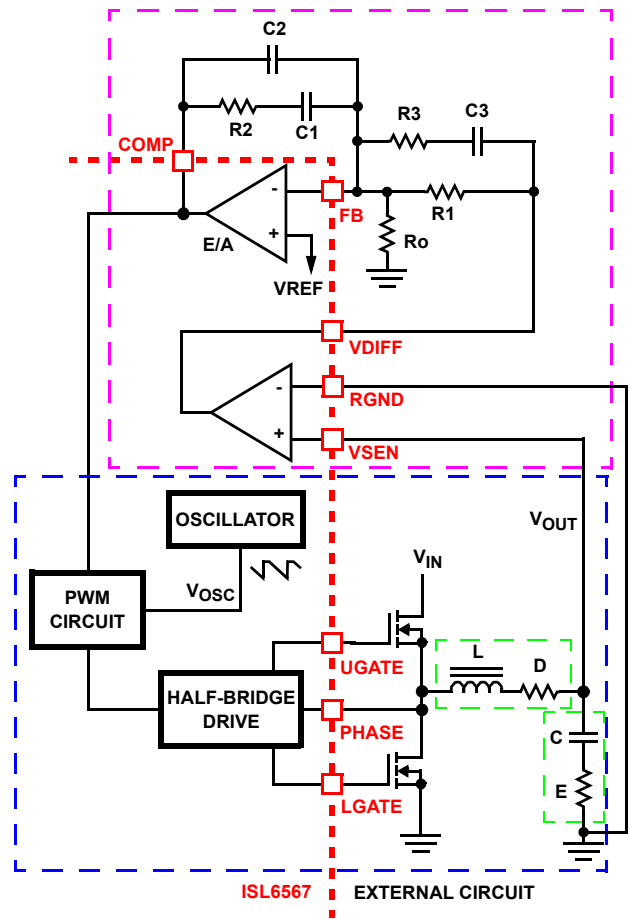

FIGURE 24. VOLTAGE-MODE BUCK CONVERTER COMPENSATION DESIGN
Figure 24 highlights the voltage-mode control loop for a synchronous-rectified buck converter, applicable, with a small number of adjustments, to the multi-phase ISL6567 circuit. The output voltage (V_{OUT}) is regulated to the reference voltage, V_{REF} , level. The error amplifier output (COMP pin voltage) is compared with the oscillator (OSC) modified saw-tooth wave to provide a pulse-width modulated wave with an amplitude of V_{IN} at the PHASE node. The PWM wave is smoothed by the output
1. Select a value for R1 (1kΩ to 5kΩ, typically). Calculate value for R2 for desired converter bandwidth (F₀). If setting the output voltage via an offset resistor connected to the FB pin, R_o in Figure 24, the design procedure can be followed as presented. However, when setting the output voltage via a resistor divider placed at the input of the differential amplifier, in order to compensate for the attenuation introduced by the resistor divider, the